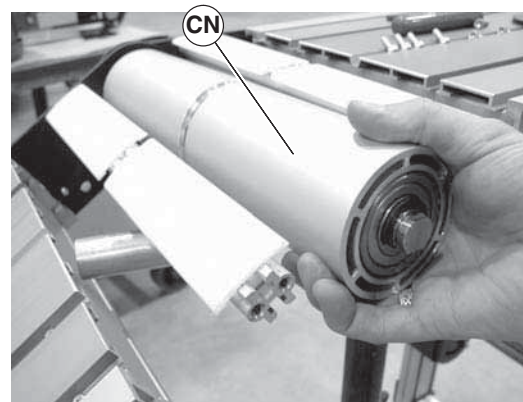

Figure 73
4. Slide the idler pulley assembly (Figure 73, item CN) out of the knuckle plate on the opposite side.